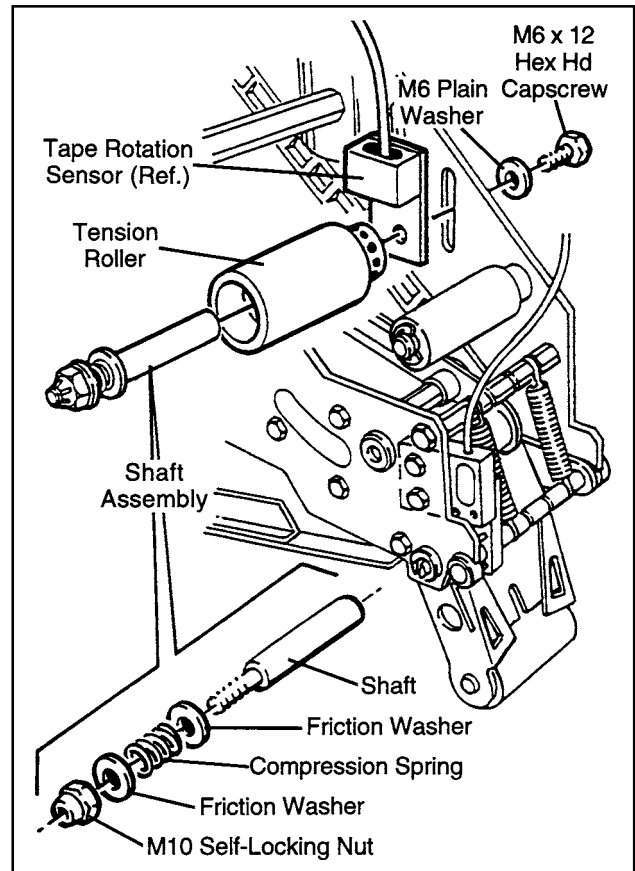

Figure 3
- Assemble tension roller, friction washers (2), compression spring and self-locking M10 nut to roller shaft as shown in Figure 3.